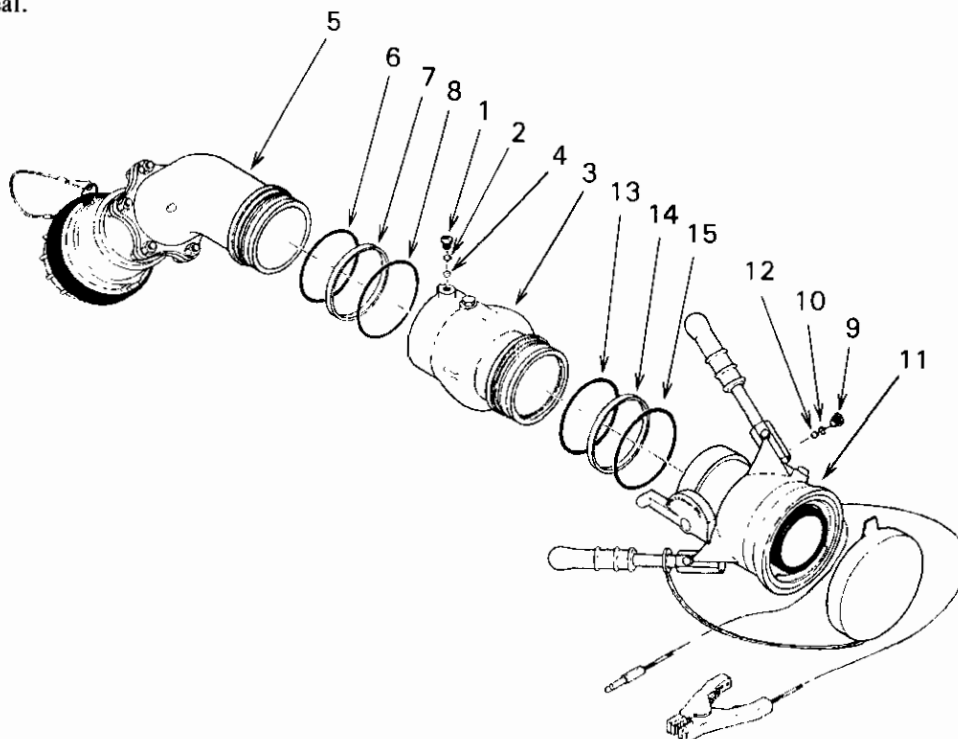

Figure 5-5. D-1R Nozzle Assembly
- (1) Remove D1 inlet elbow from the hose end regulator. (Refer to figure 5-5.)
- (a) Remove screw (1) and O-ring (2). Discard O-ring (2).
- (b) Hold the hose end regulator (3) with the screw hole pointed down to allow the balls (4) to fall out.
- (c) Rotate the hose end regulator (3) back and forth allowing all balls (4) to fall out.
- (d) Separate the inlet elbow (5) and the hose end regulator (3).
- (e) Remove O-ring (6), seal (7) and O-ring (8) from inlet elbow (5) and discard O-rings and seal.
- (2) Remove hose end regulator from nozzle body. (Refer to figure 5-5.)
- (a) Remove screw (9) and O-ring (10). Discard O-ring (10).
- (12) Use an arbor press or equivalent to compress the piston assembly and spring (7) into housing (6).
- (13) Install retaining ring (5) in housing (6) to secure piston assembly in housing (6).
- (14) Remove housing from arbor press or equivalent.
- (15) Attach D1 inlet elbow on hose end regulator (refer to figure 5-5).
- (a) Install O-ring (6), seal (7) and O-ring (8) on inlet elbow (5).
- (b) Attach and hold together the inlet elbow (5) and the hose end regulator (3).
- (c) Rotate the hose end regulator (3) and inlet elbow (5) back and forth allowing all balls (4) to fall into the groove as they are dropped in the hose end regulator (3).
- (d) When all balls (4) are installed, position O-ring (2) and install screw (1).
- (16) Attach hose end regulator to nozzle body (refer to figure 5-5).
- (a) Install O-ring (13), seal (14) and O-ring (15) in hose end regulator (3).
- (b) Attach and hold together the nozzle body (11) and the hose end regulator (3).